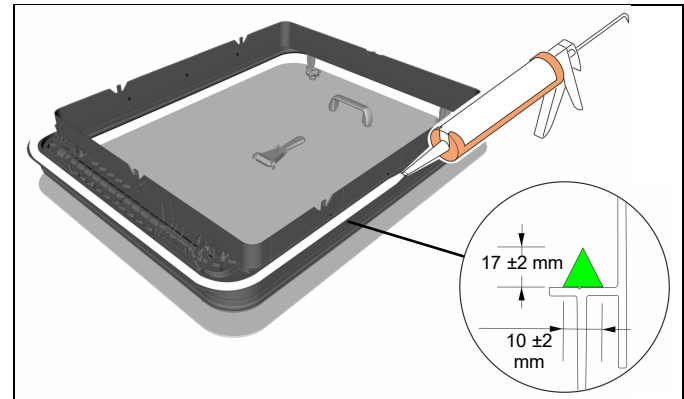

Fig. 5 Applying the adhesive
2. Apply a bead of Sikaflex®* adhesive evenly over the entire circumference of the roof hatch adhesive surface using a cartridge gun (Fig. 5).